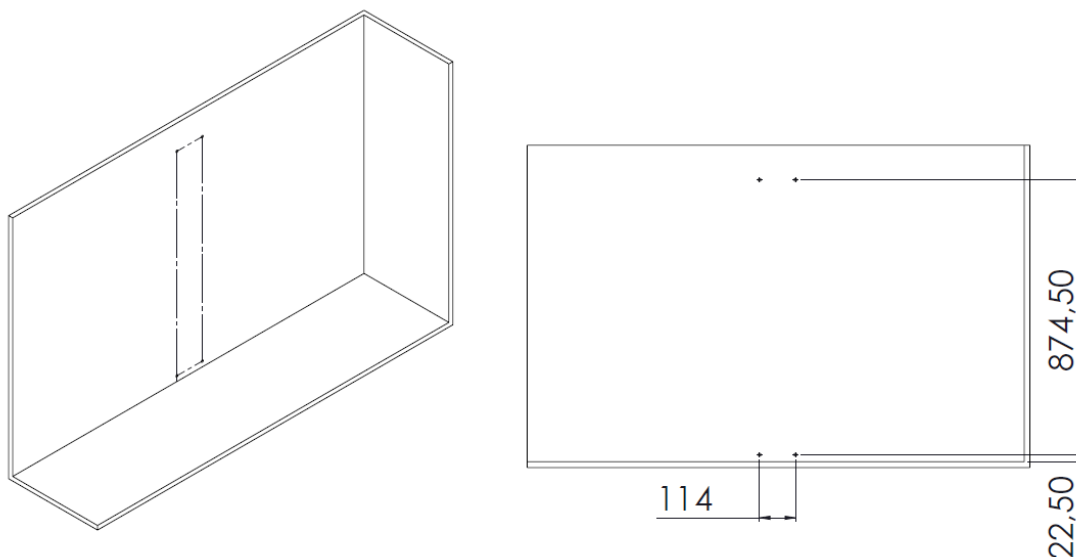

Fig.6.
1. When mounting the lift to furniture, drill holes according to the dimensions given in Fig. 6.